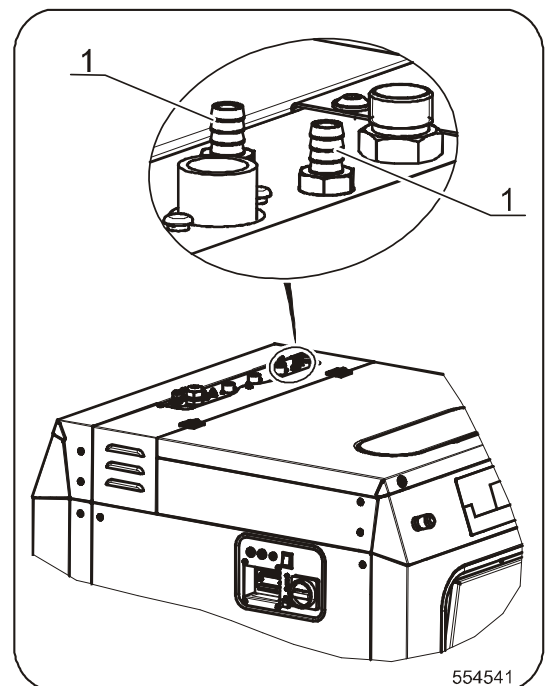

Figure 24
- On request, the machine can be fitted with two additional inlets of liquid soap detergents situated on the panel – see Figure 24 pos. 1.